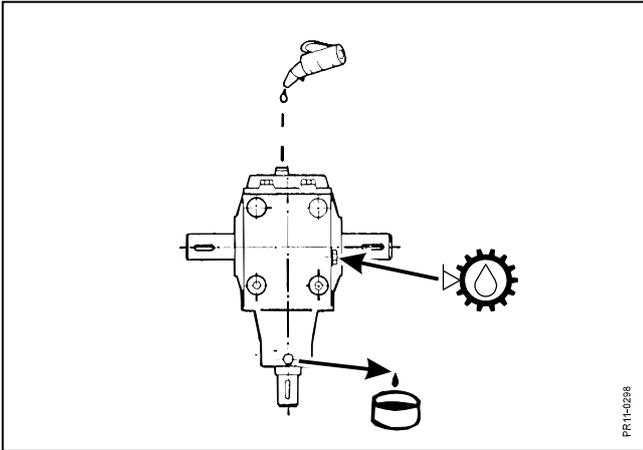

Fig. 4-7
- Fig. 4-7** Oil content:  1,5 l